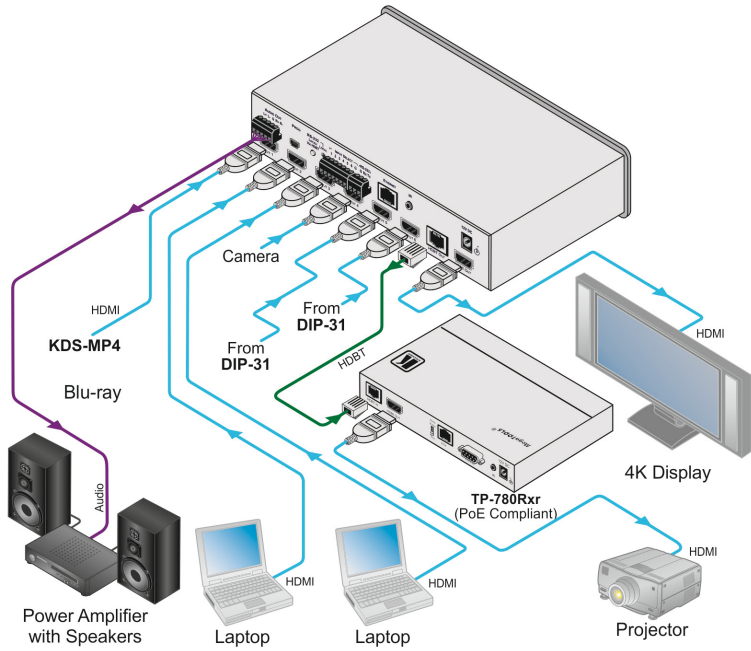

Figure 2: Connecting the VS-611DT UHD 6x1:2 Auto Switcher
**To connect the VS-611DT as illustrated in the example in Figure 2:**